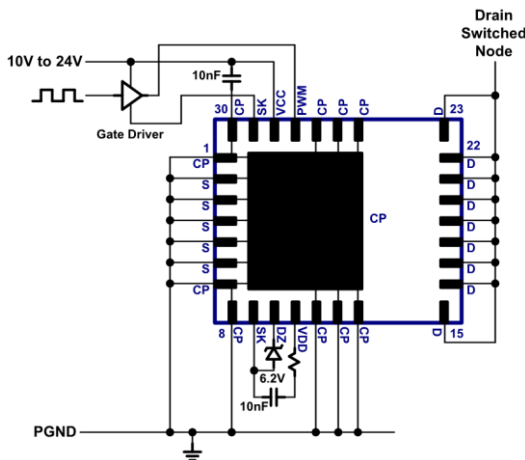

Fig. 22. SK pin connections
8.4. Source Kelvin (SK) Ground Pins
For high current and hard-switching CCM applications, high-frequency switching noise due to PCB layout parasitic inductance should be minimized as much as possible. To further reduce high-frequency noise, this GaN Power IC includes two Source Kelvin (SK) pins (pin 9, pin 29). The SK pins are on-chip kelvin contacts to the Source and are separate from the high current Source connections (pins 2-7). The GND connections for components C_{VDD} and D_Z should be connected to SK pin 9, and the GND connection for C_{VCC} should be connected to CP pin 30 (Fig. 22). SK pin 29 should be left unconnected (N/C). When using an external gate drive buffer for PWM, the GND of the external gate drive buffer should be connected to the SK pin 29. This will minimize any possible high frequency voltage spikes from occurring at the PWM input during switching.